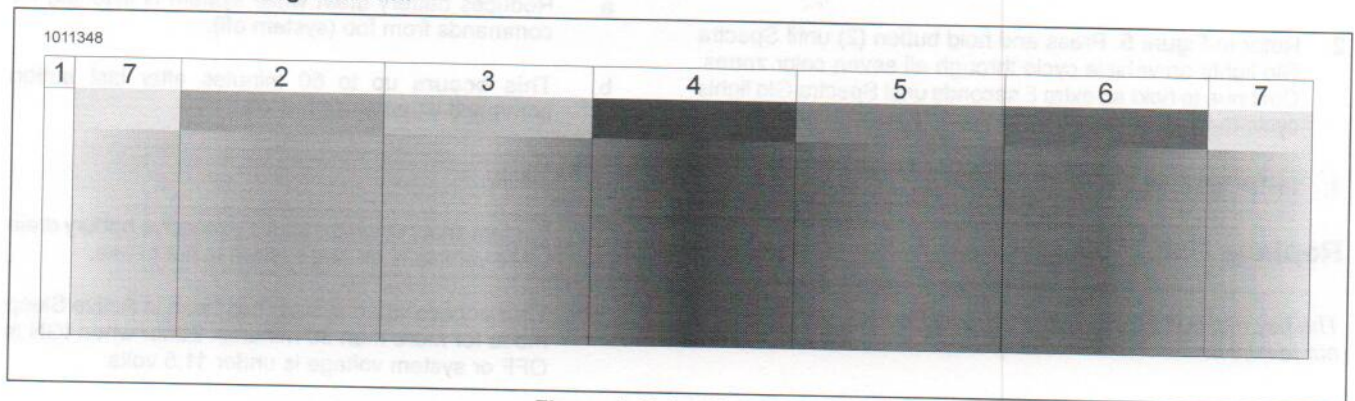

Figure 4. Color Spectrum
- Refer to Figure 4. Seven preset color zones are available. Each having a number of shades: